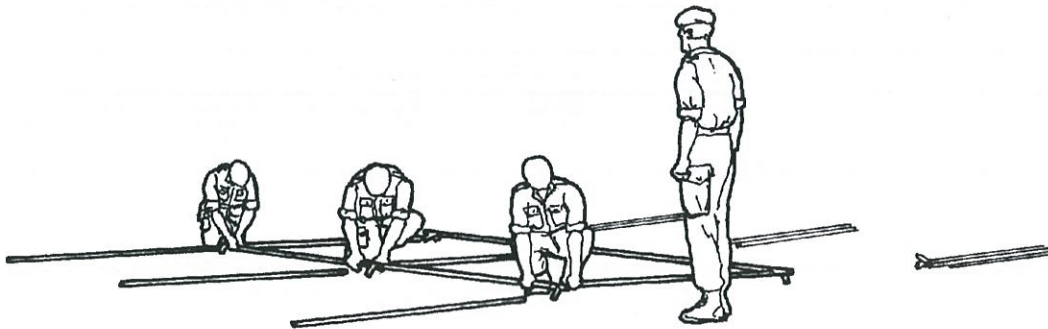

Fig 5-11 — Assembly of Ridge Line to Eave Line (Side One)
- b. Move up the eave line and assemble it to the lateral supports. This completes the roof frame on one side of the ridge only (Fig 5-11).